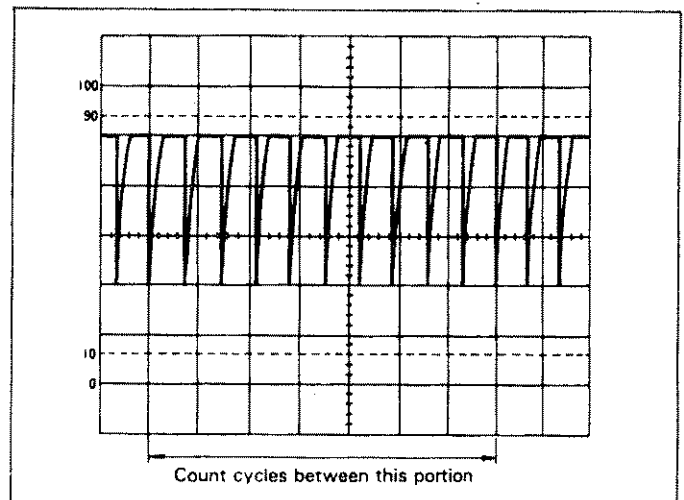

Fig. 10. Alternate Method of Frequency Measurement.
(Refer to Fig. 10)
2. Count the number of cycles of waveform between a chosen set of vertical graduation lines (see Fig. 10).
For the example shown in Fig. 10, there are 10 cycles within 7 divisions. If the sweep **TIME/DIV** is  $5 \mu\text{s}$  and **X10 Mag** is not used, the frequency is calculated as follows: